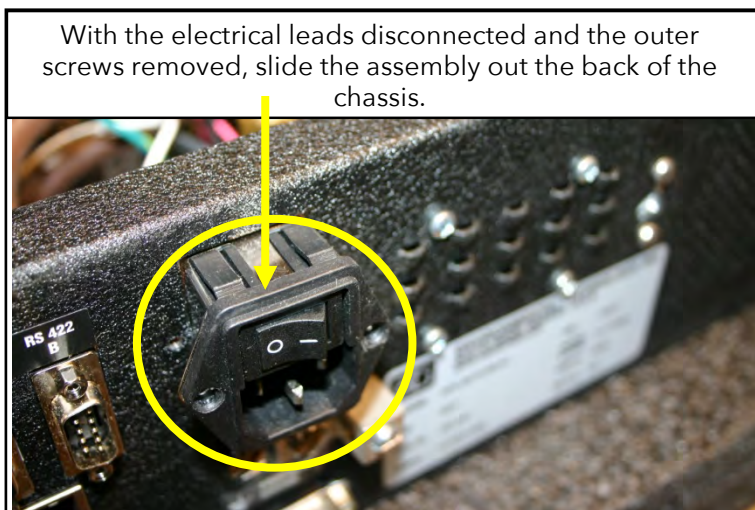

Figure 5. REMOVING THE POWER FILTER MODULE ASSEMBLY.
- With the three electrical leads disconnected from inside the machine and the two mounting screws removed from the back of the machine, push the assembly out of the machine through its mounting hole. Refer to Figure 5.